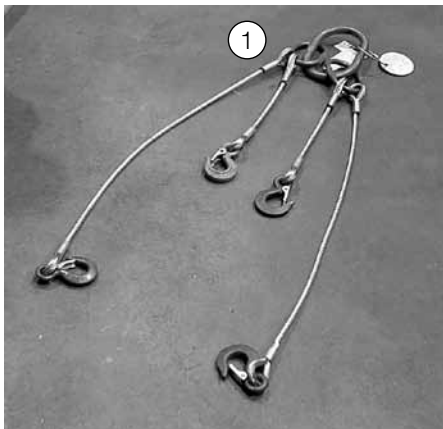

Fig. 2a
- To lift and handle the circuit-breaker, use the tool (1) (fig. 2a: shortest hooks for circuit-breakers up to 17.5 kV; all hooks for 24 kV circuit-breakers).
- Put the hooks (2) in the holes prepared in the circuit-breaker frame and lift.